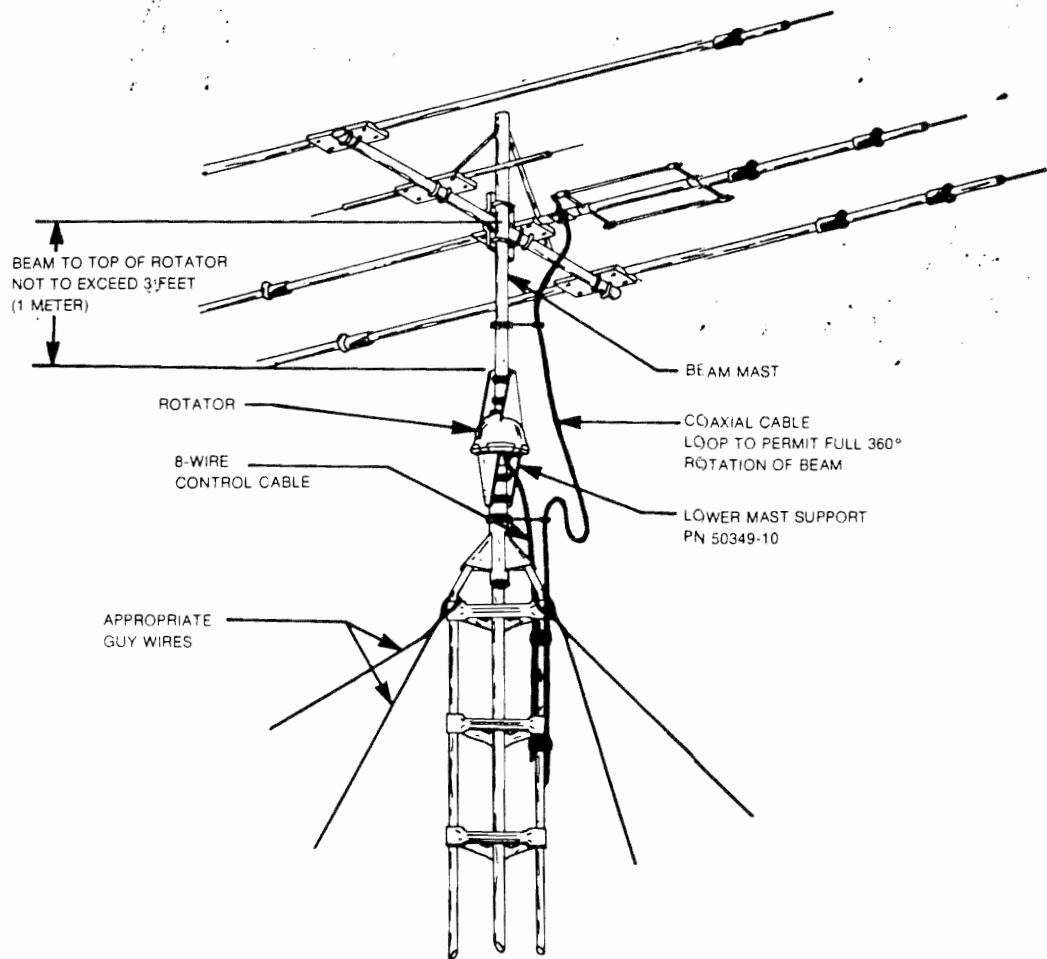

Figure 2
2. An "Outside" tower mount, as per Figure 2, is the best type of installation when not using an inside tower mount. The rotator is not as well protected but the installation is simpler. The lower mast support, which is included with the rotator, is required.
Referring to Figures 2, 3 and 7, an outside tower or pole mount is made in the same manner except that the rotator is fastened by four (4) bolts to the lower mast support, Part Number 50349-10. Since the eccentricity of the rotator turning in reference to the tower is no longer important, the shimming procedure is not necessary. The four (4) screws must be torqued to the same specification, and the 8-wire cable securely fastened.